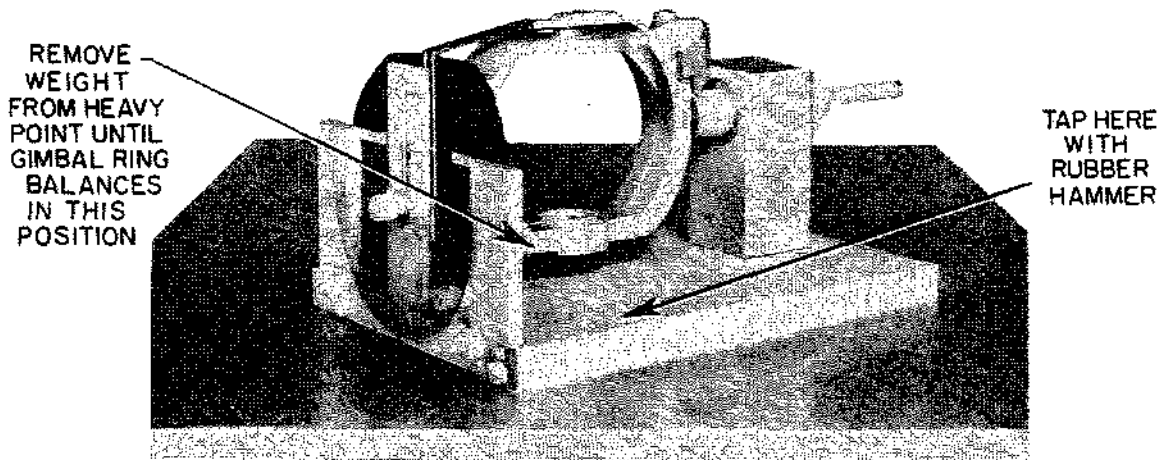

FIGURE 26 BALANCING THE GIMBAL RING, POINTER BAR VERTICAL
2. Turn the gimbal ring so that the pointer bar is vertical (see Fig.26) and tap base of fixture with rubber hammer. The gimbal ring will swing to one side and come to rest with its heavy side down. Remove weight from this point until the gimbal ring will stand in the vertical position.